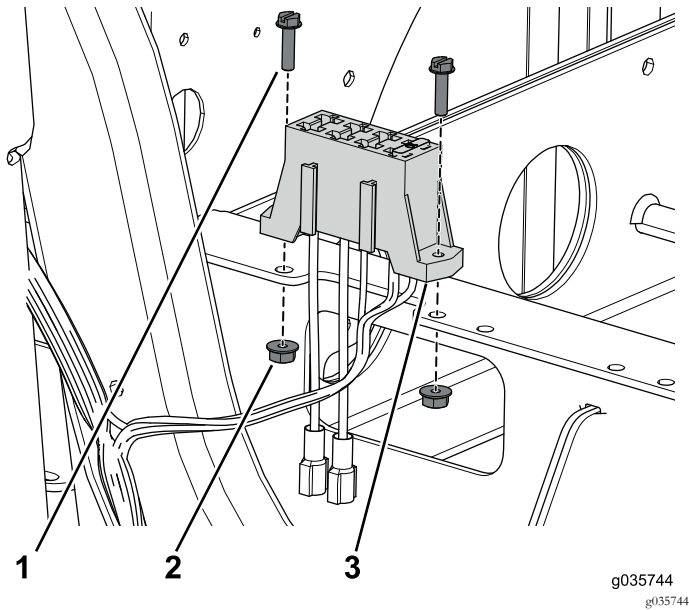

Figure 84
3. Use the 2 screws and nuts that secure the fuse block to the front battery tray (Figure 84).